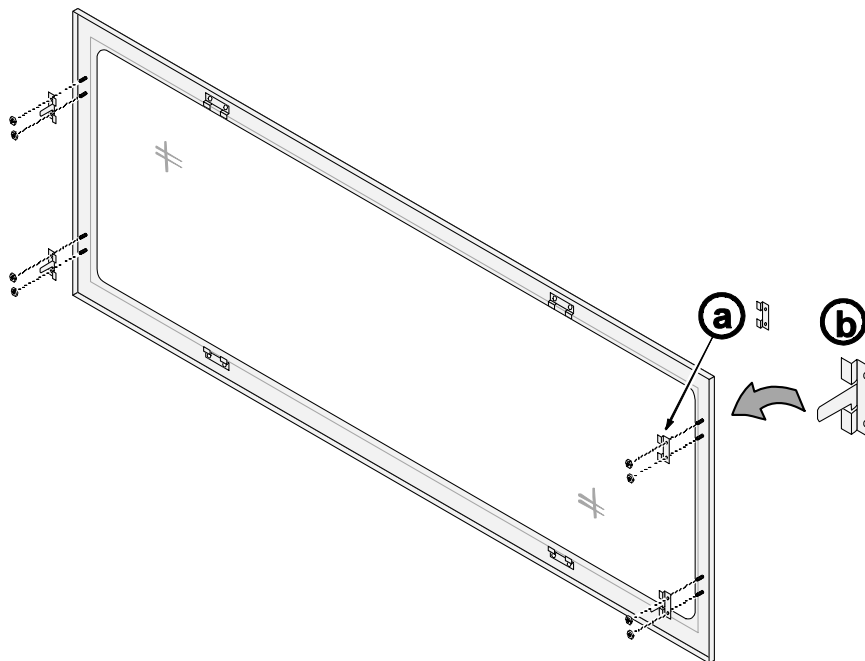

Figure 6
1. Remove and discard the four side glass brackets on the glass frame (see Figure 6, item "a"). Attach the mounting brackets included with this kit to the back of the glass frame, using the nuts removed earlier - **make sure the brackets are installed with the notch on the lower side of the bracket** (see Figure 6, item "b").